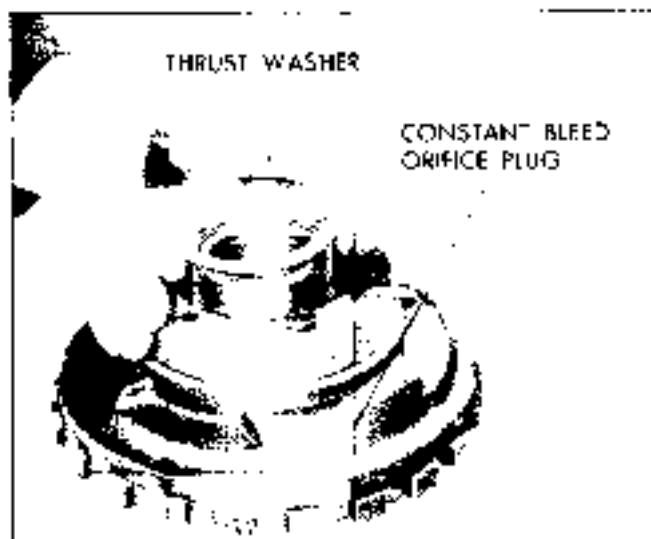

Fig. 7E-133 Installing Center Support to Reaction Carrier Thrust Washer
17. Install roller clutch into reaction carrier outer race (Fig. 7E-134).